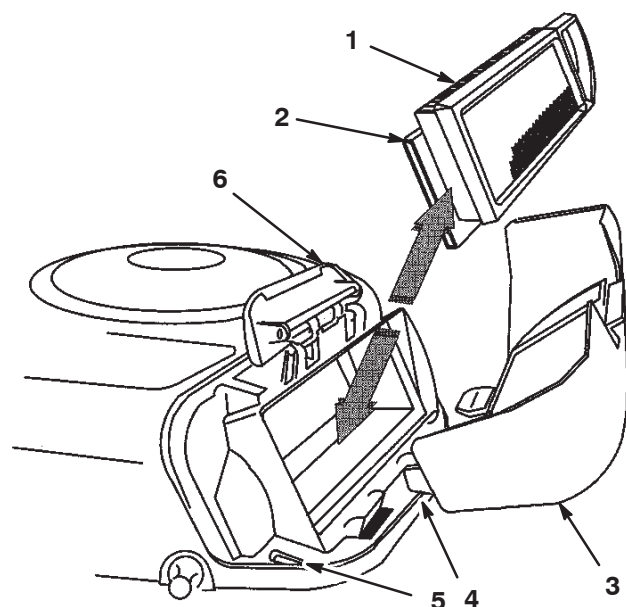

Figure 31
4. Carefully slide the paper element and the foam element from the blower housing (Fig. 31).
2. Align the tabs on the air cleaner cover with the slots of the blower housing (Fig. 31). Hook the handle onto the cover and press down on the handle to lock the cover in place.